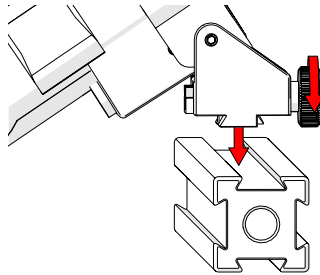

Fig. 172 - Mount on frame bar
1. Loosen the battery powered optical guide knob (*Fig. 172*) and mount the optical guide to the frame bar.